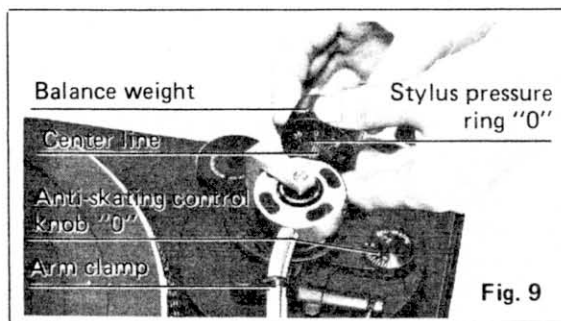

Fig. 9
- ⑤ After the tonearm is horizontally balanced, temporarily fix the tonearm by the arm clamp. (See Fig. 9).
Hold the balance weight stationary with fingers as shown in Fig. 9 and rotate only the stylus pressure ring to bring the numeral "0" of the ring into alignment with the center line on the tonearm rear shaft. (The adjustment of the horizontal balance is now completed.)